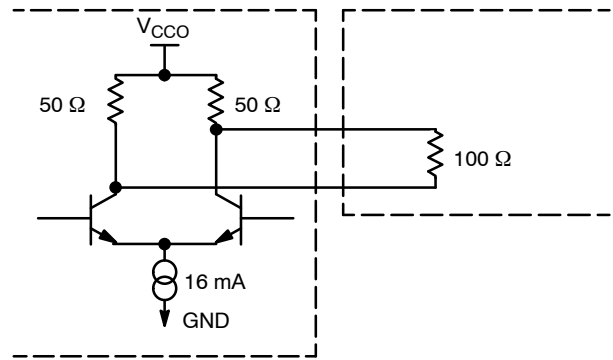

Figure 10. Alternative Output Termination
**CML OUTPUTS** (Notes 1 and 2) (Figure 10)